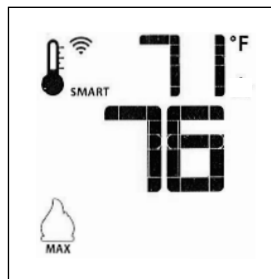

Fig. 8.19. Smart Mode
- To activate this function, press the Thermostat Key until the word “SMART” appears to the right of the thermometer bulb icon. Fig. 8.19.